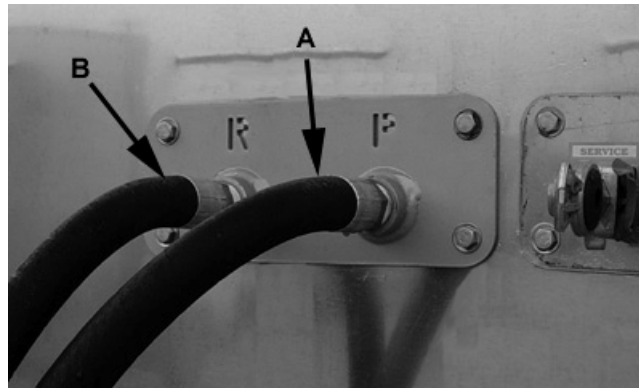

Figure 3-7 Connect Walking Floor Hydraulic Hoses
13. On walking floor trailers, connect the pressure (A) and return (B) hydraulic hoses to the couplers on the truck. See figure 3-7.